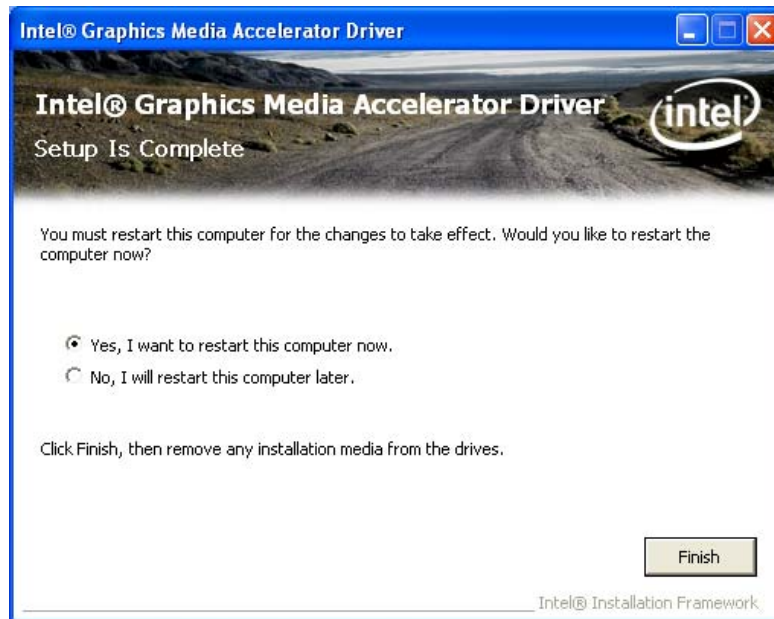

Figure 6-13: Graphics Driver Installation Finish Screen
Step 16: The Finish screen in Figure 6-13 appears.